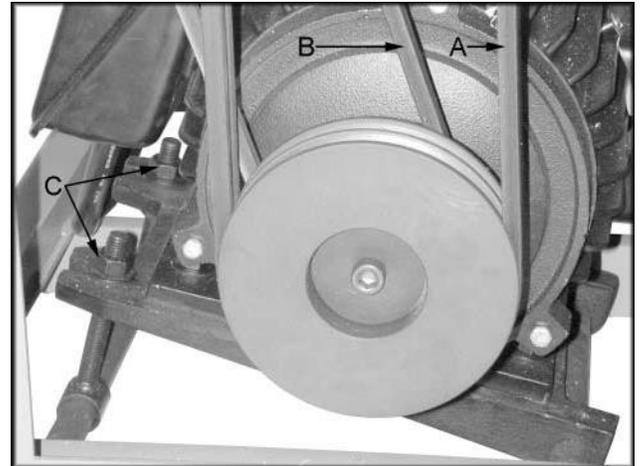

Figure 20
Three V-belts (A, Fig 20) drive the cutterhead. The single V-belt (B, Fig 20) drives the in-feed and out-feed rollers.
3. Loosen and tighten four adjustment nuts (C, Fig 20) to move motor plate up, or down to increase, or decrease belt tension.